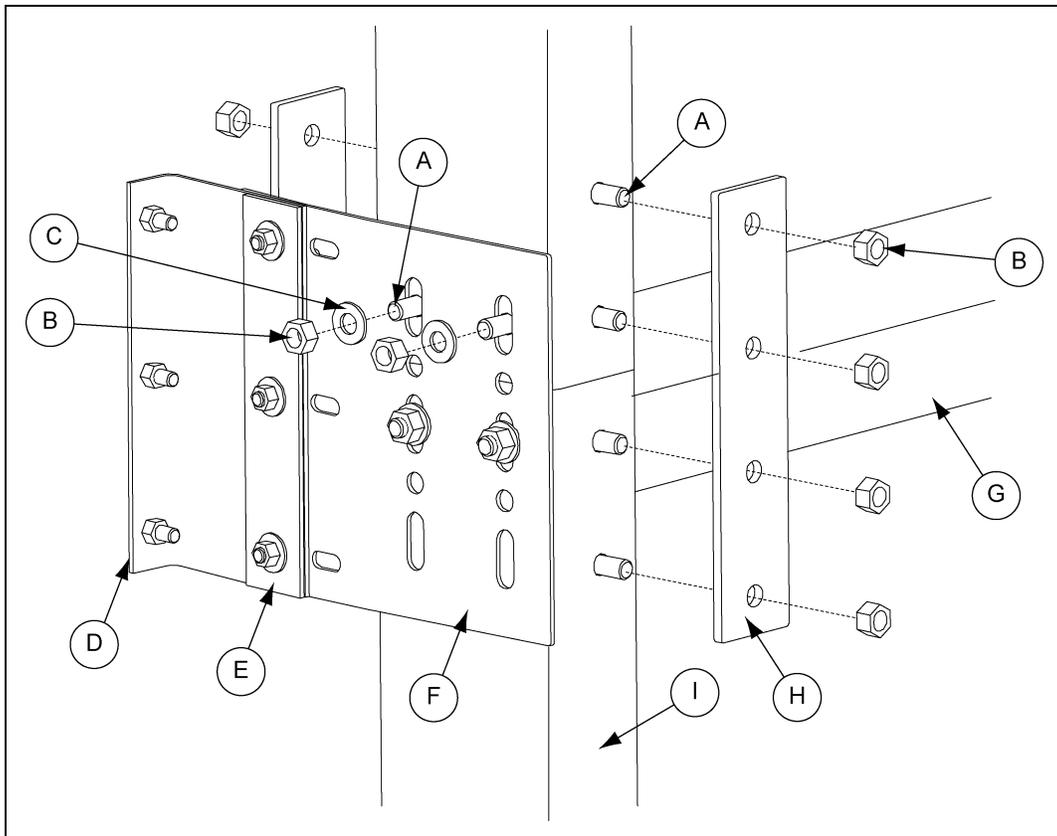

Figure 20
2. Fasten top column to lateral brackets (**STC00355**) using two (2) 1/2" x 1" bolts, washers, and hex nuts for each column. (See Figure 20.)
3. Align flange joint plates (STC00353) with holes in columns and attach using six (6) 1/2" x 1" HHCS bolts and hex nuts. **NOTE:** Bolt heads go to inside of channel. Skip top hole in bottom channel until next step. DO NOT fully tighten bolts.
4. Attach “H” channel braces (**STC00350**) to the inside of the columns and the flange joint plates using two (2) 1/2" x 1" HHCS bolts and hex nuts for each column. (See Figure 20.)